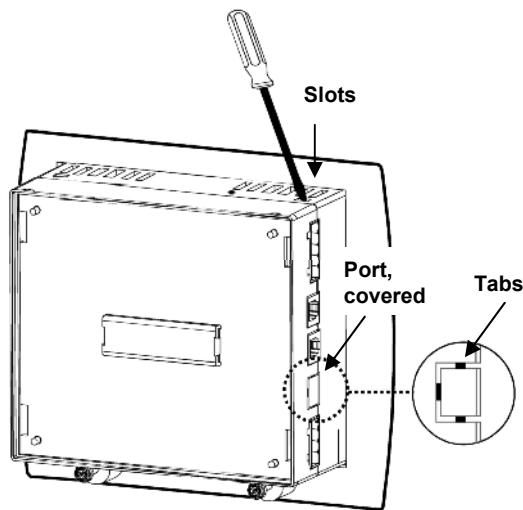

Figure 1. Opening the Controller
4. The port's location is covered by plastic. Remove the plastic covering using a razor cutter to cut through the tabs shown in Figure 1.
3. The port's location, COM 3, is covered by plastic. Remove the plastic covering using a razor cutter to cut through the tabs shown in Figure 1.